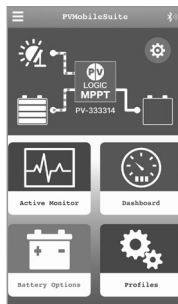

Fig 2
4. Your App will now connect to the controller and show you this screen (Fig 2).